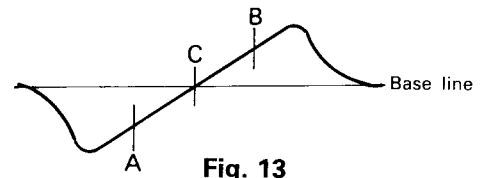

Fig. 13
5. Use the T202 core to form the S-curve shown in Fig. 13. Adjust the symmetry of A and B about point C for linearity.